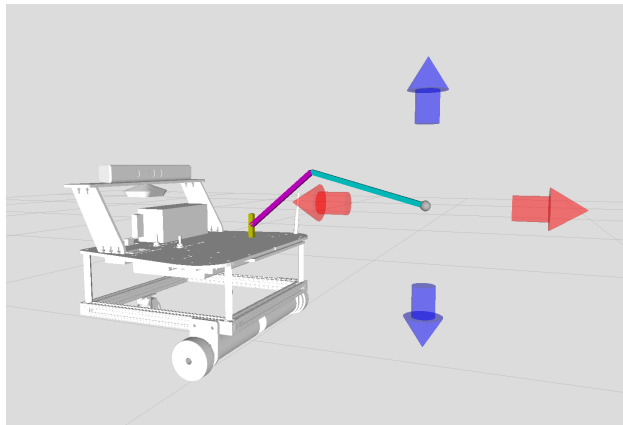

Figure 3: Interactive IK. You can drag the grey sphere in a 2D plane to specify the input (x, z) to the IK program, and then see the IK solution.
4.1-planning-interactive. You should see the interface shown in Figure 3. Specify the IK input with the arrows in `rviz`, and see if the solution visualized with the two links is correct. The arrows are known as *interactive marker*, which is a convenient tool for specifying position and orientation visually in `rviz`.